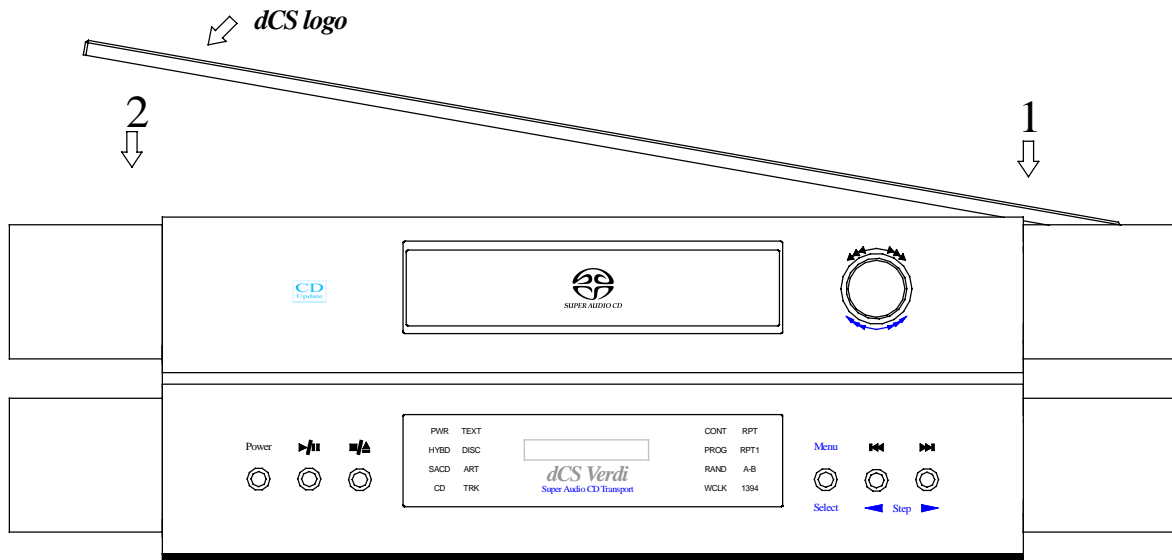

Figure 11 – Locating the Top Glass Plate
- do this:** Find the *dCS* logo on the top face of the glass. Fit the glass with the logo in the front left corner of the unit as shown in **Figure 11**.
- do this:** Carefully locate the right hand edge of the glass in the well in the top of the unit (step 1 in **Figure 11**).
- do this:** Lower the glass down on the left hand side until it can be safely dropped into place (step 2 in **Figure 11**). Centralise the glass plate.